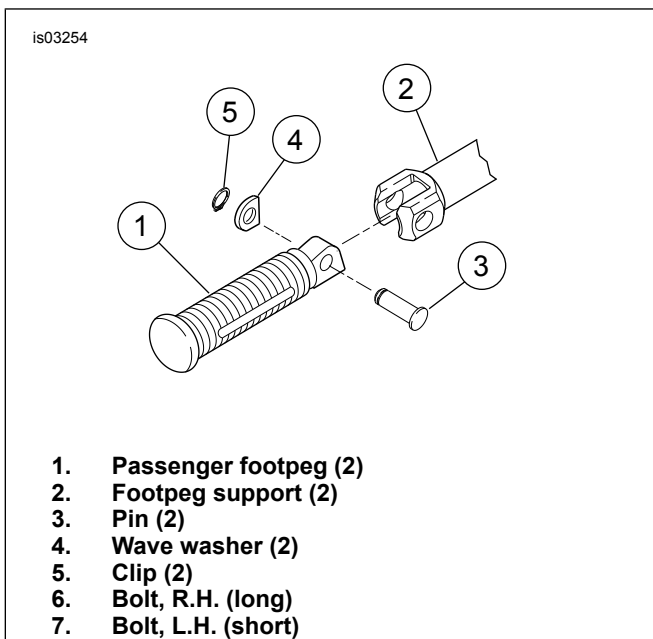

Figure 6. Passenger Footpeg Mounting (Right Side)
4. See Figure 6. Remove passenger footpeg (1) from footpeg support (2) by removing pin (3), wave washer (4), and clip (5). Save parts for kit installation.
1. See Figure 6. Install passenger footpeg (1) to footpeg support (2) using original pin (3), wave washer (4), and clip (5).